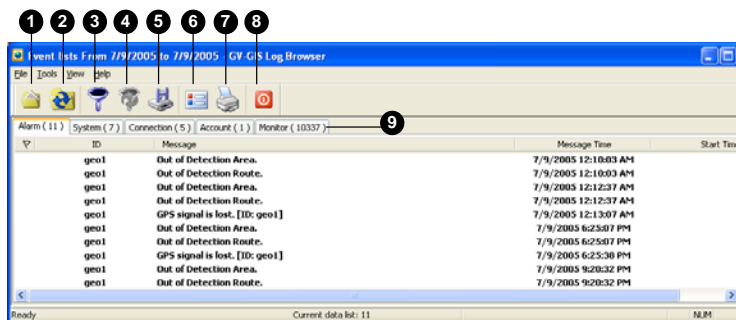

Figure 5-41
1. Click the **Open** button (No. 1, Figure 5-41). This dialog box appears.
1. Click the **Filter** button (No. 3, Figure 5-41). This dialog box appears.
- Click the **Backup** button (No. 5, Figure 5-41). This dialog box appears.